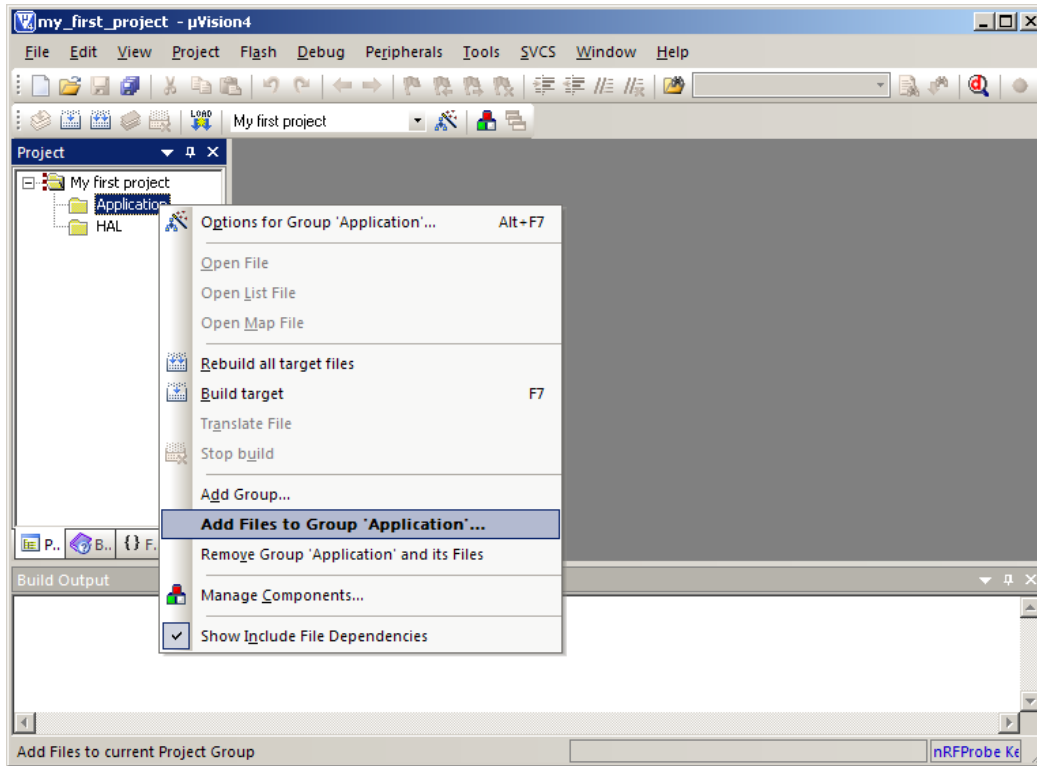

Figure 18. Adding the first file to the project
2. From the Project tree view’s context menu, select **Add files to group “application”...** as shown in Figure 18. on page 17. The “Add files to group ‘application’” dialog appears.